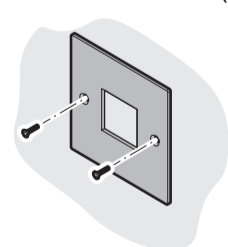

Fig. 3
3. Secure flush fitting wall light to circular connection box (Fig. 3 and 4).